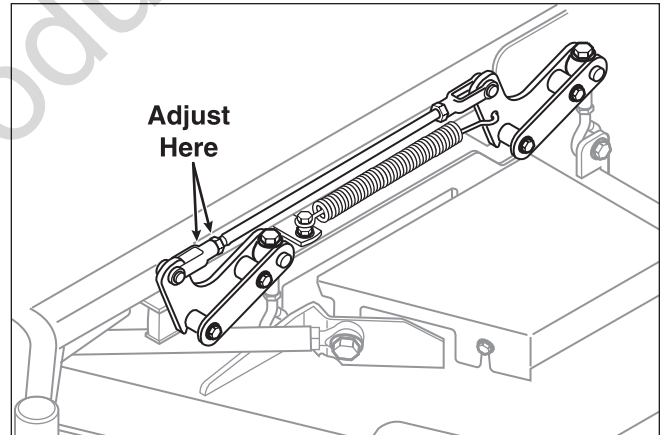

Figure 44. Adjust Lift Rod Timing
7. See Figure 44. To adjust the lift rod, loosen the jam nut on the front clevis then remove the 1/2" clevis pin fastening the clevis to the lift pivot arm. Turn the clevis clockwise to shorten the distance between the rod pivots or counter-clockwise to lengthen the distance between the rod pivots. Reinstall the clevis on the lift pivot arm and secure with the 1/2" clevis pin previously removed. Tighten the jam nut against the clevis.